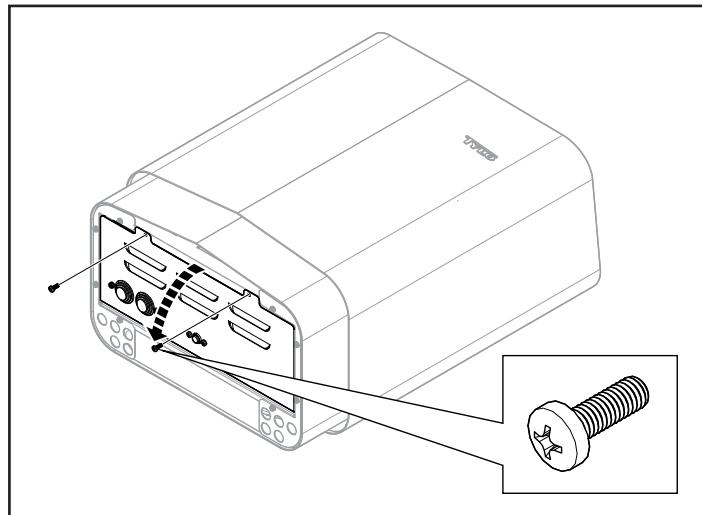

Figure 10: Opening/closing the cover
5. Close the cover and tighten the screws (see Figure 10).